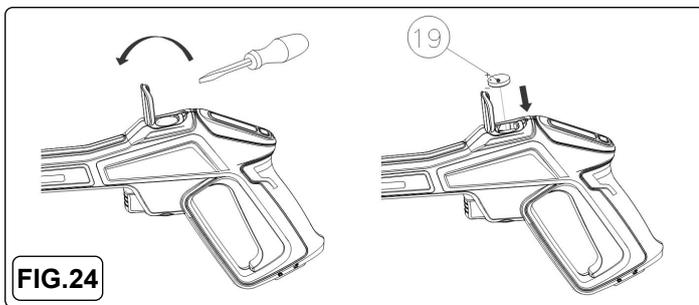

FIG.24
6.6. TRIGGER GUN BATTERY REPLACEMENT (FIG.24)